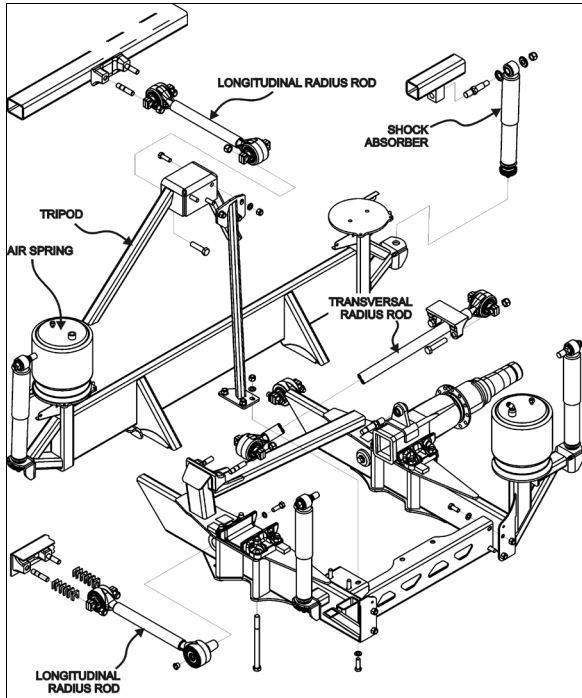

FIGURE 35: DRIVE AXLE, DETAILS OF REAR SUSPENSION
1. Remove nuts and washers from shock absorbers on upper mounting pin and lower mounting bracket, taking care to identify the inner and outer washers to ease reinstallation. Refer to Figure 35 for details.